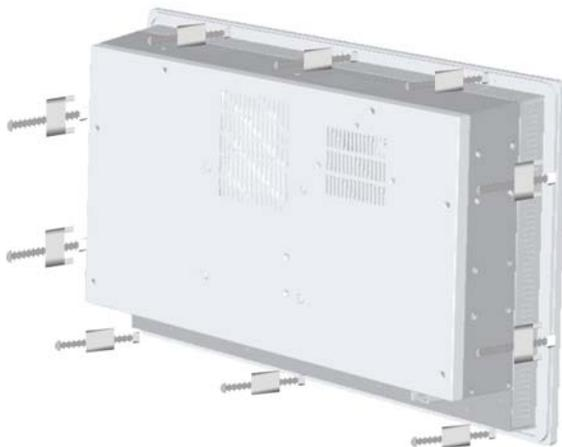

Figure 3-15: Panel Mounting Clamp Positions
- Step 4:** Insert the panel mounting clamps into the pre-formed holes along the edges of the PPC-5190, behind the metal frame (**Figure 3-15**). Refer to the mounting kit packing list for the required number of mounting clamps.